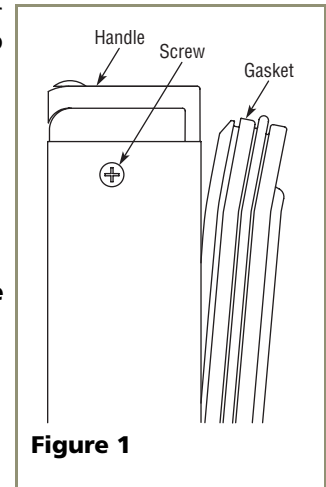

Figure 1
1. Open drawer. Pull drawer gasket out of groove (top edge of drawer only). Start in the middle and pull outward, moving toward the edge (see **Figure 1**). This may take some force.